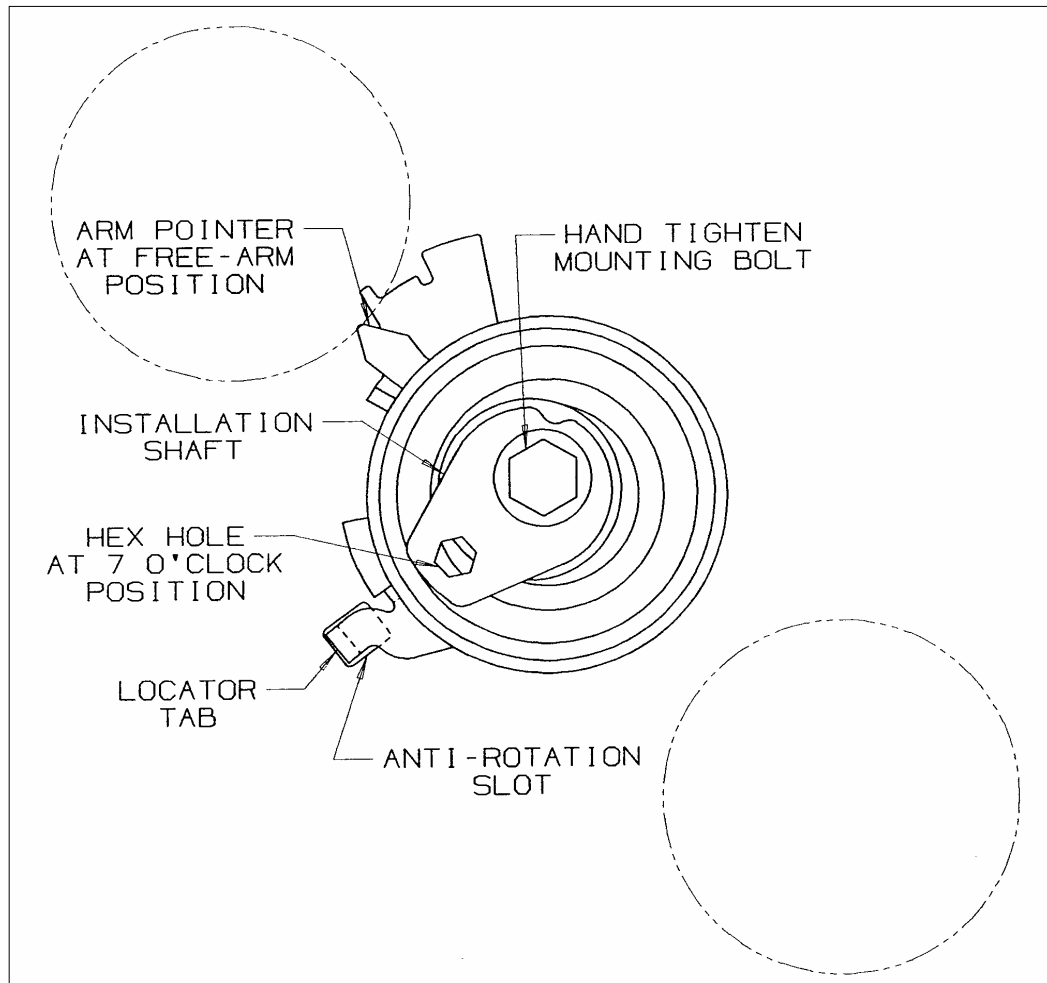

Figure 1: Tensioner shown at Free-Arm Position on the Mounting Surface
5. Mount the new timing belt tensioner on the engine. The timing belt tensioner Locator Tab should engage the Anti-Rotation Slot in the oil pump housing on the engine. (Figure 1). Ensure that the timing belt tensioner arm pointer is below the flange of the water pump sprocket.
6. Rotate the Installation Shaft until its Hex Hole is pointing at the "7 O'clock position", this will maximize the belt clearance with the timing belt tensioner for ease of installation. Hand tighten the M8 Mounting Bolt (Figure 1).